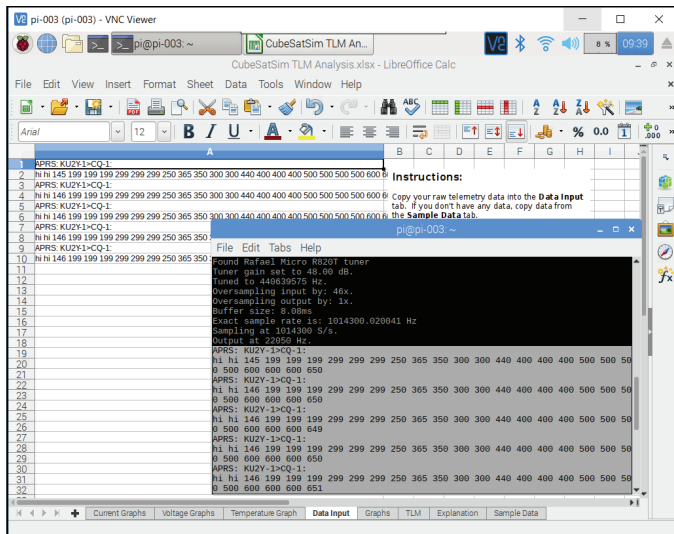

Fig. 11. Cut and Paste on Raspberry Pi Between Decoder and Spreadsheet.
3. Even the spreadsheet telemetry analysis can be done on the RPi using LibreOffice Calc. The LibreOffice suite is pre-installed in the standard ‘‘Raspbian OS with desktop and recommended software’’ as shown in Figure 11.
4. The Pi can be configured as a Wi-Fi Access Point (AP) using RaspAP [7] so that a dedicated Wi-Fi router is not needed.